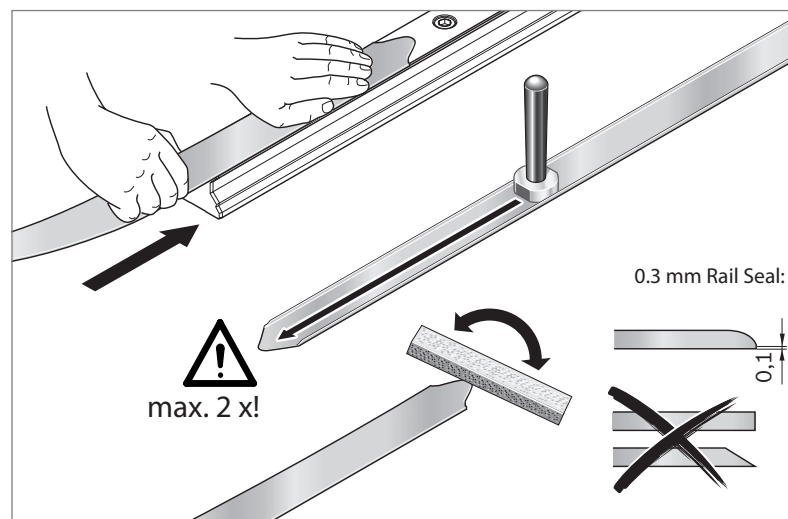

Fig. 49: Checking the sliding fit
- ▶ Before sliding on the Rail Seal, make sure that the seal tongue is angled slightly downward to ensure it can be easily slid under the sealing lip of the runner block. ➔ Fig. 49